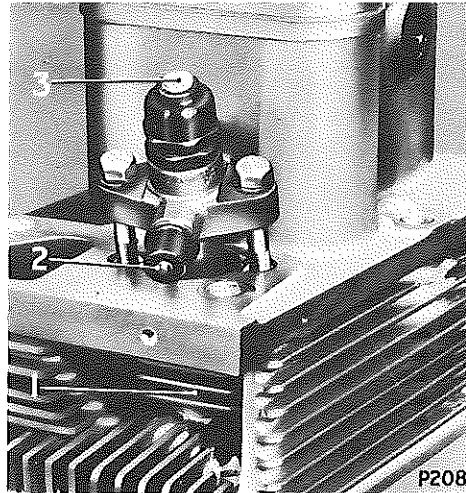

Fig. 7 INJECTOR ASSEMBLY
3. Replace the injector shrouds (Fig. 7) ensuring that they are centrally disposed in their recesses, i.e. not contacting the outer walls of the head.